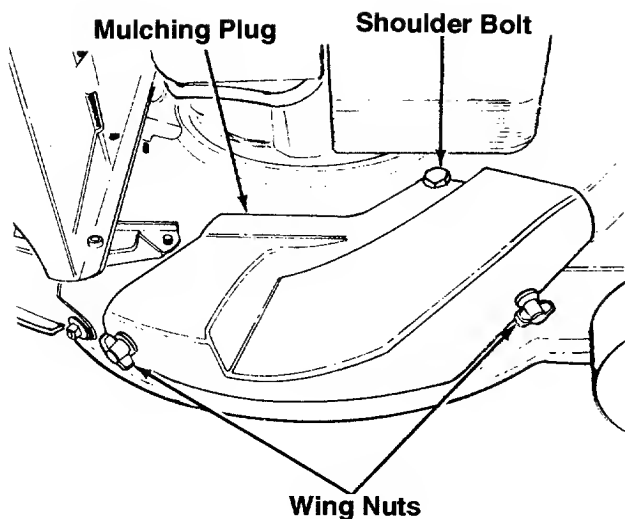

FIGURE 5.
- ← 2. Attach the mulching plug by first placing it over the rear bolt in the side of the deck. Then slide the notch in the top of the mulching plug around the shoulder bolt on top of the deck. Slide the notch in the side of the mulching plug around the front bolt in side of the deck. Secure using two wing nuts. See figure 5.